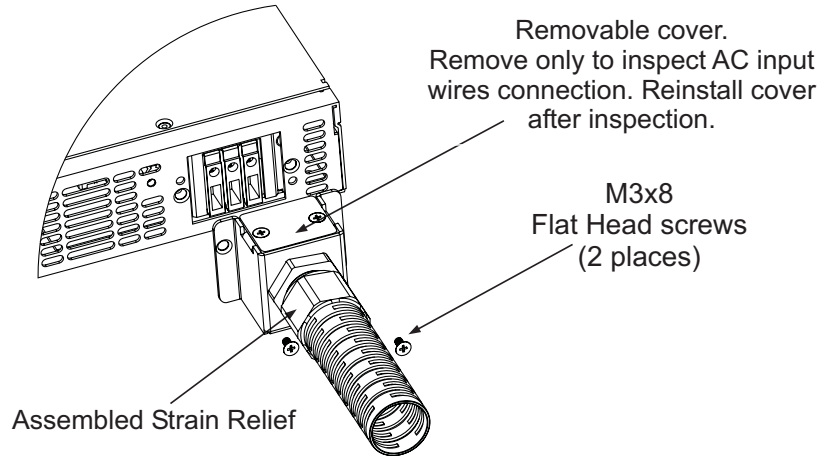

Fig.3-3: AC input cover and strain relief, 1500W models
5. Route the wires inside the cover to prevent pinching. Fasten the cover to the unit using the M3x8 Flat Head screws are provided. Strain relief cover could be opened for inspection. Refer to Fig.3-3 for details.